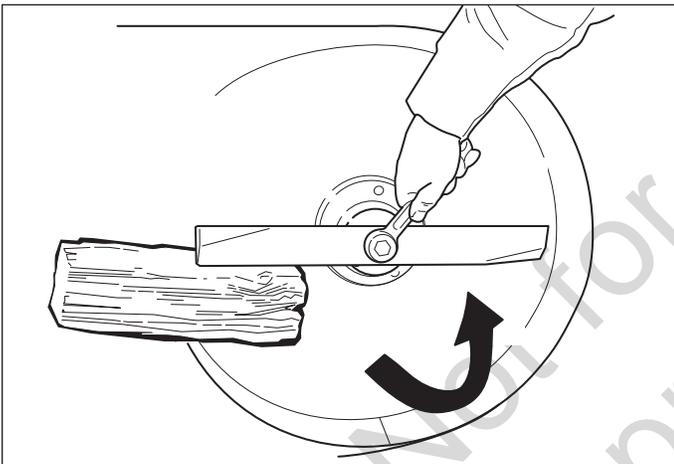

Figure 3. Removing the Mower Blades
1. To remove the mower blades, wedge a wooden block between the mower blade and the mower deck housing to keep the mower blade from turning, then remove the blade mounting hardware. See Figure 3.